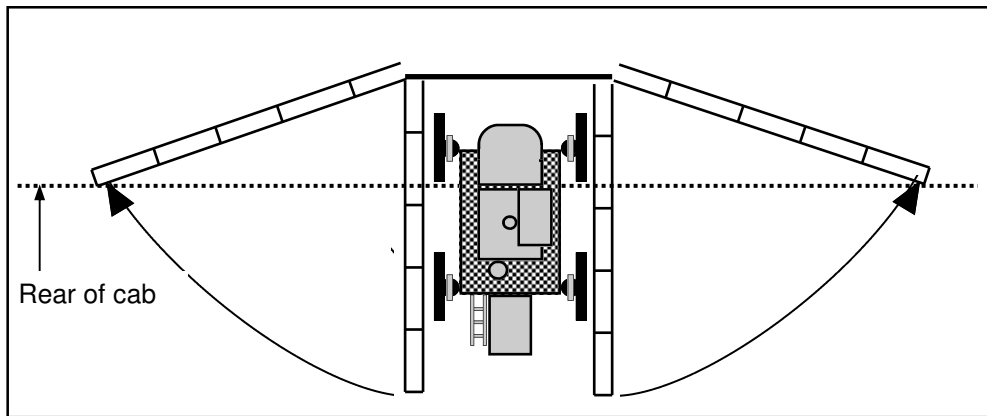

FIG. 60-1
| 3. With the booms folded, horizontally extend the booms so that the folded tip is approximately even with the rear of the cab.   | 60; FIGURE 60-1            |
**OPENING THE BOOM**– The booms must be partially open to keep them stable while off the machine. Open the booms so that the stand on the end of the first section is even with the rear of the cab (fig. 60-1).